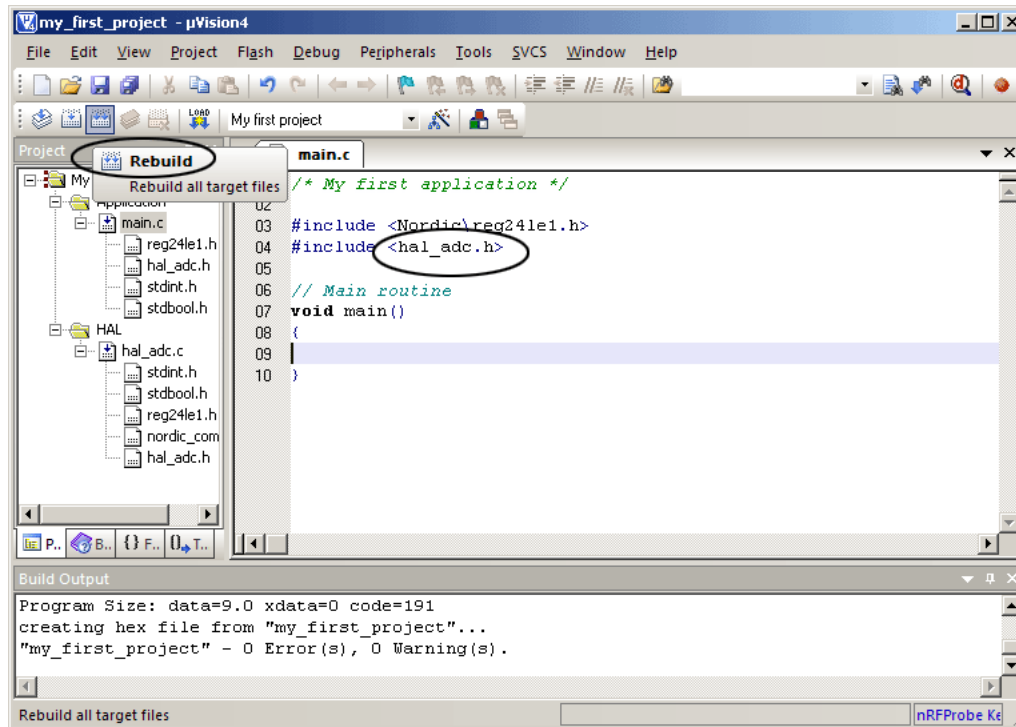

Figure 27. Rebuilding target
4. After including the file in the project you can **Rebuild** the application. See Figure 27. You can use a project with an empty main routine. The compiled code space is now 191 bytes, the reason for this is that you have included all the functionality of the ADC to your project, but not used it yet. If you are using the extended linker, then unused functions are not compiled and there is no increase in code size.